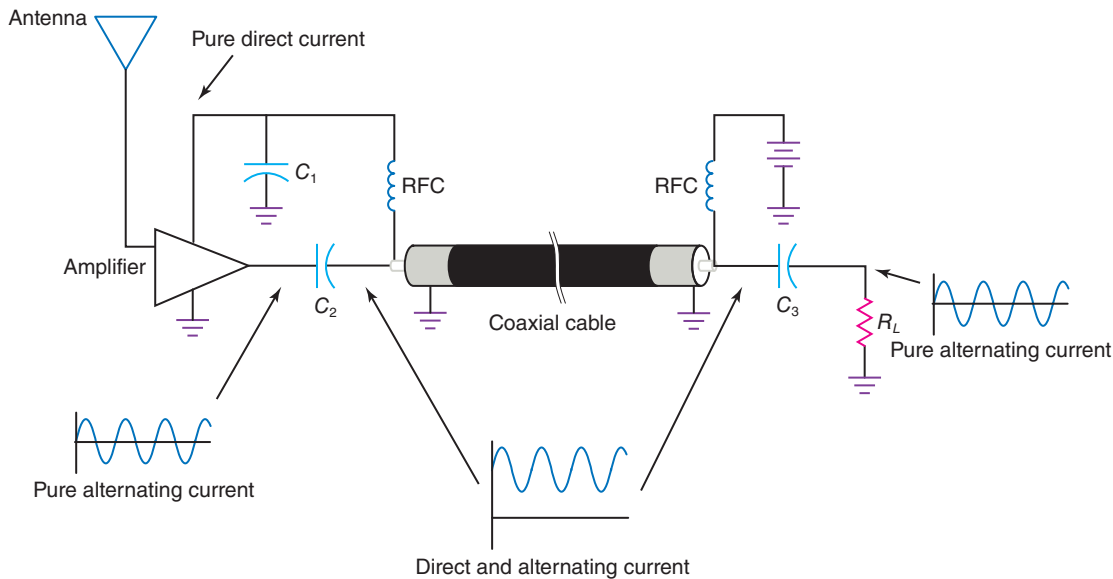

Fig. 1-14 Sending power and signal on the same cable.
Figure 1-14 shows a clever application of the ideas presented here. Suppose there is a problem with weak signals from a television station. An amplifier can be used to boost a weak signal. The best place for one is at the antenna, but the antenna is often on the roof. The amplifier needs power, so one solution would be to run power wires to the roof along with a separate cable for the television signal. The one coaxial cable can serve both needs (power and signal).
The battery in Fig. 1-14 powers an amplifier located at the opposite end of the coaxial cable. The outer conductor of the coaxial cable serves as the ground for both the battery and the remote amplifier. The inner conductor of the coaxial cable serves as the positive connection point for both the battery and the amplifier. Radio-frequency chokes (*RFCs*) are used to isolate the signal from the power circuit. *RFCs* are coils wound with copper wire. They are inductors and have more reactance for higher frequencies.
battery from shorting the high-frequency signal to ground. The inductive reactance of the choke on the left side of Fig. 1-14 keeps the ac signal out of the power wiring to the amplifier.
At direct current ($f = 0$ Hz) the inductive reactance is zero. The dc power passes through the chokes with no loss. As frequency increases, so does the inductive reactance. In Fig. 1-14 the inductive reactance of the choke on the right side of the figure prevents the
Assume that the *RFCs* in Fig. 1-14 are 10 μH . The lowest-frequency television channel starts at 54 MHz. Determine the minimum inductive reactance for television signals. Compare the minimum choke reactance with the impedance of the coaxial cable, which is 72 Ω .
Capacitors C_2 and C_3 in Fig. 1-14 are coupling capacitors. They couple the ac signal into and out of the coaxial cable. These capacitors act as short circuits at the signal frequency, and they are open circuits for the dc signal from the
battery. Capacitor C_1 is a bypass capacitor. It ensures that the amplifier is powered by pure direct current. Resistor R_L in Fig. 1-14 is the load for the ac signal. It represents the television receiver.
20. What is the function of C_1 in Fig. 1-14?
21. What is the function of C_2 in Fig. 1-14?